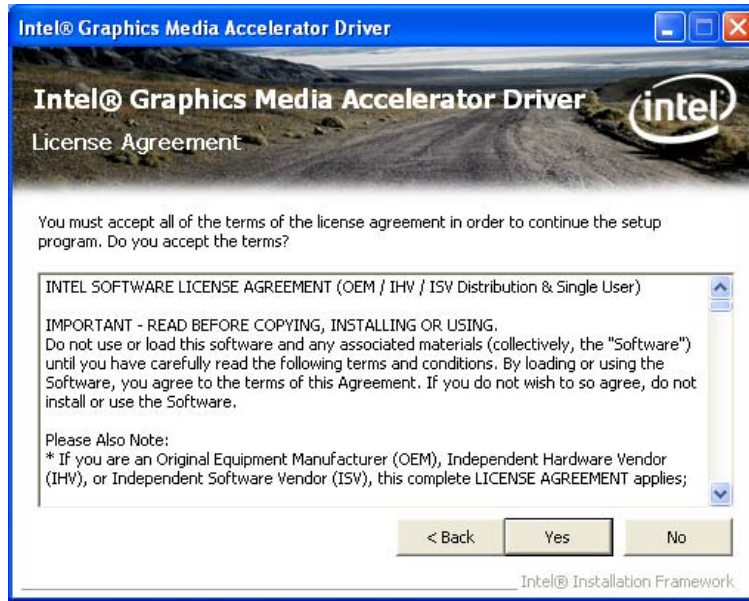

Figure 7-13: VGA Driver License Agreement
- Step 8:** The license agreement in Figure 7-13 appears.